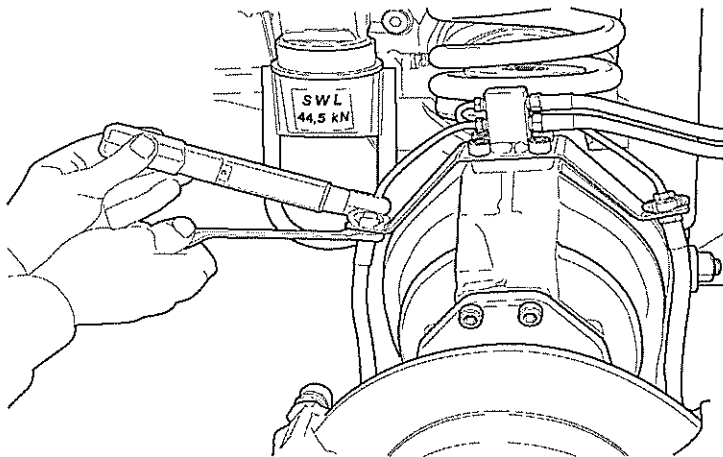

Fig 12 Refitting brake pipes
9.11 Remove plugs from brake pipes. Insert retaining springs and tighten brake pipes to correct torque, (see Table 2, Ser 10 and Fig 12).